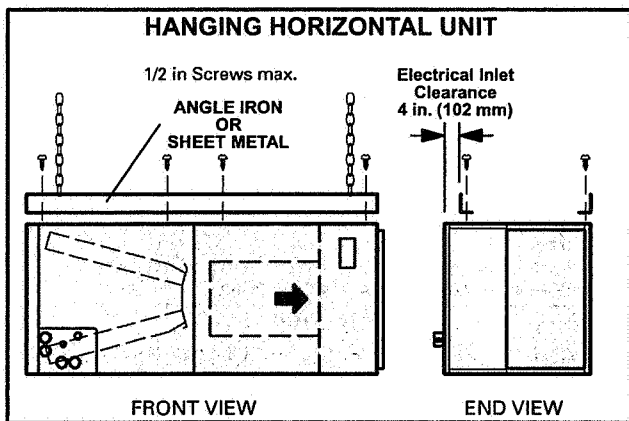

FIGURE 3
3 - If hanging the unit, it must be supported along the entire length of the cabinet. If using chain or strap, use a piece of angle iron or sheet metal attached to the unit (either above or below) so that the full length of the cabinet is supported. Use securing screws no longer than 1/2 inch to avoid damage to coil or filter. See figure 3. Connect return and supply air plenums as required using sheet metal screws.
- 13 - If hanging the unit, it must be supported along the entire length of the cabinet. If using chain or strap, use a piece of angle iron or sheet metal attached to the unit (either above or below) so that the full length of the cabinet is supported. Use securing screws no longer than 1/2 inch to avoid damage to coil or filter. See figure 3. Connect return and supply air plenums as required using sheet metal screws.